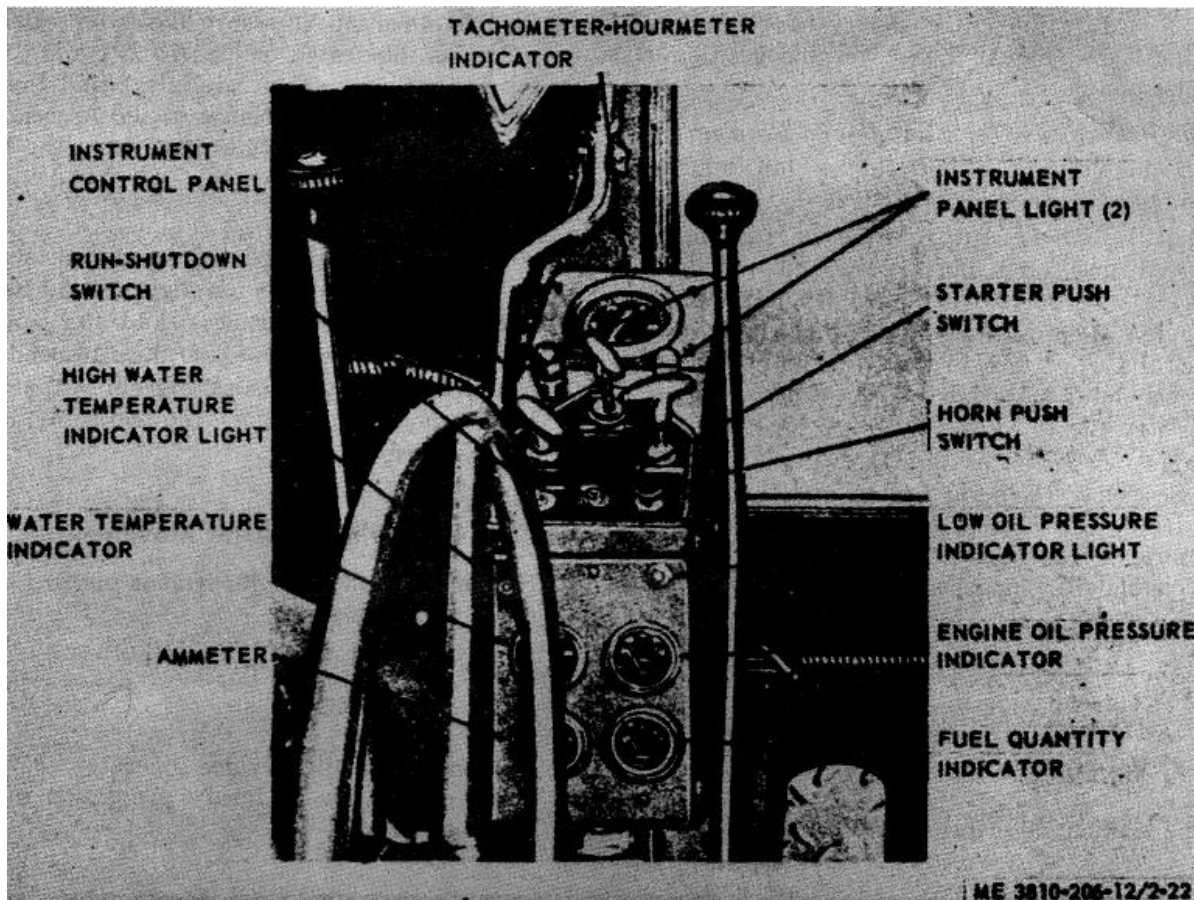

Figure 2-22. Instrument control stand.
(1) The tachometer-hour meter is located at top of instrument panel (fig. 2-22) and indicates speed (in revolutions per minute) at which engine is operating.
(2) The hour meter portion of tachometer is calibrated to register engine hours at 1,411 rpm. Operation at other speeds subject to interpolation.
c. *Instrument Panel Lights.* Two panel lights (fig. 2-22) illuminate instrument panel on control stand. Two others illuminate lighting control box area.
g. *Horn Push Switch.* When depressed, horn push switch (fig. 2-22) completes electrical circuit and horn sounds warning. When pressure is released, horn shuts off.
h. *Run-Shutdown Switch (Applicable to Engine Model 687C-18-ES Installation Only).* Moving this switch (fig. 2-22) to RUN energizes
i. *Starter Push Switch.* After moving RUNSHUTDOWN switch to RUN, depressing this switch (fig. 2-22) will cause starter solenoid to engage starter, and start engine.
k. *Hot Engine Indicator (Warning) Light.* This light (fig. 2-22) when ON, (red) warns operator that cooling system is defective, and that The should stop engine (para 2-11) for an investigation of cause(s).
l. *Engine Oil Pressure Indicator.* This indicator (fig. 2-22), when engine is operating, indicates pressure in lubrication system. The pressure indication at idle speed should be 15 psi or above. Normal operating pressure at governed speed is 35 psi.
m. *Engine Water Temperature Indicator.* This indicator (fig. 2-22), when engine is operating, indicates temperature of coolant. Normal operating temperature should range between 160°F and 180°F. If operating temperature is not reached in a reasonably short time, stop engine (para -1 1) and determine cause(s).
o. *Indicator Fuel Level.* Located on operators instrument panel (fig. 2-22), it indicates quantity of fuel in tank.
q. *Heat-Start Switch (On Models With DS3STA Engine).* This switch (fig. 2-25) is also an aid to cold weather starting (para 2-25) for the model D333TA engine, and will replace starter push switch (fig. 2-22) on operator's instrument panel as D333TA engines are installed. Refer to paragraph 225 for operating instructions.
(3) Position engine throttle control lever at half throttle, and move run-shutdown switch (fig. 2-22) from shutdown to ON.
(a) Depress start push switch (fig. 2-22) for 15 seconds or until engine starts, then release switch.
(c) After engine starts, insure that there is sufficient oil pressure to turn off low oil pressure warning light (fig. 2-22). If light does not go out within 15 seconds, stop engine (para 2-11) and determine cause(s). Report deficiencies to organizational maintenance personnel.